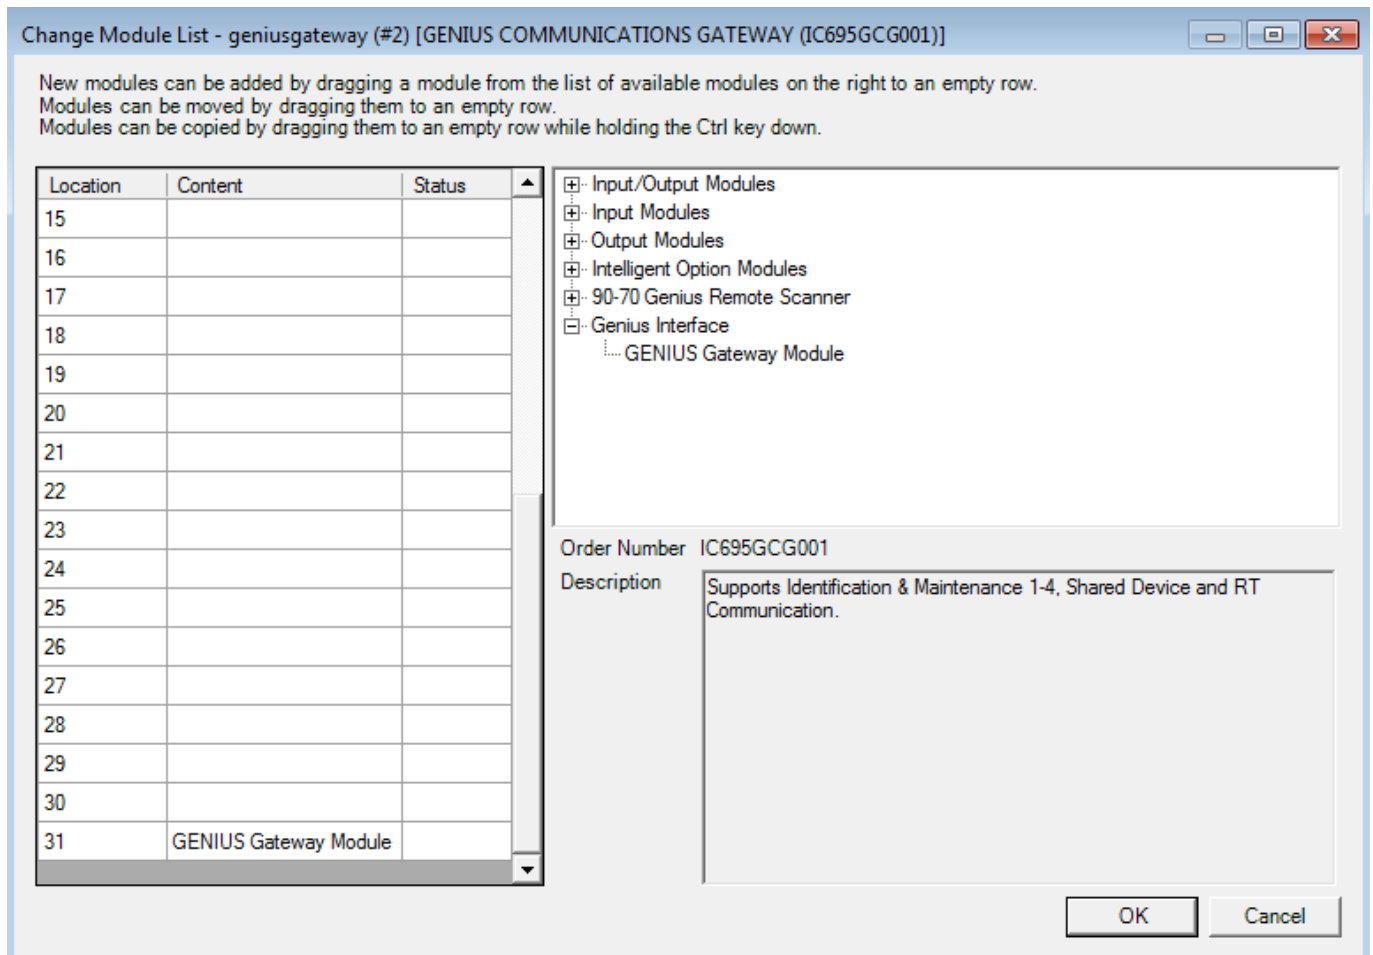
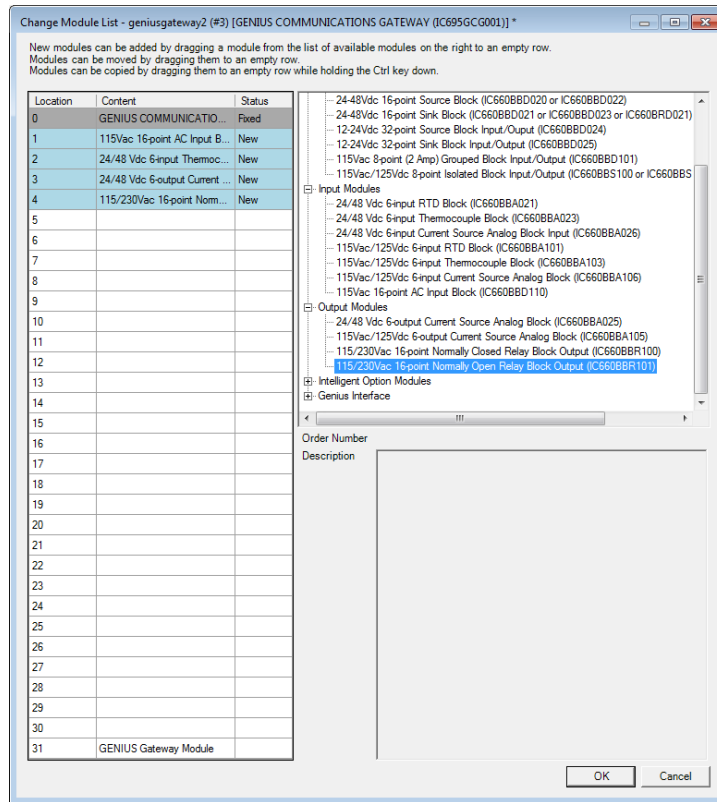

Figure 15: Change Module List for Genius Gateway GCG001
Figure 16: Populating the Genius IO Devices to be Controlled by the Genius Gateway
8. Add Genius I/O devices to the Genius Bus by right-clicking **geniusgateway...** and selecting **Change Module List...** (see Figure 15). If the application is a retrofit of an existing Genius solution, be sure to set all I/O reference addresses to match those of the Genius configuration being incorporated. To ease confusion, it is also recommended that the Genius Devices be assigned the same serial bus addresses (Location column) as had been assigned in the system under retrofit.
9. Select individual Genius I/O devices from the right-hand panel of Figure 15 and then drop them into the appropriate location row on the left-hand side, resulting in Figure 16.
11. Once all the Genius Devices have been “populated” onto the Genius Bus topology as shown in Figure 16, click the **OK** button to save that portion of the configuration.